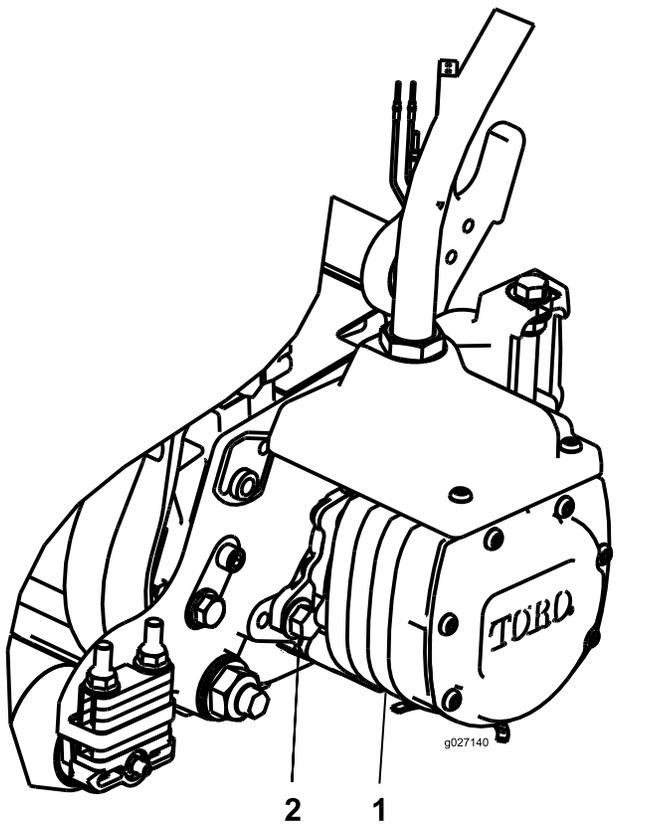

Figure 11
14. Install the motor by rotating it clockwise so that the motor flanges clear the bolts (Figure 11).